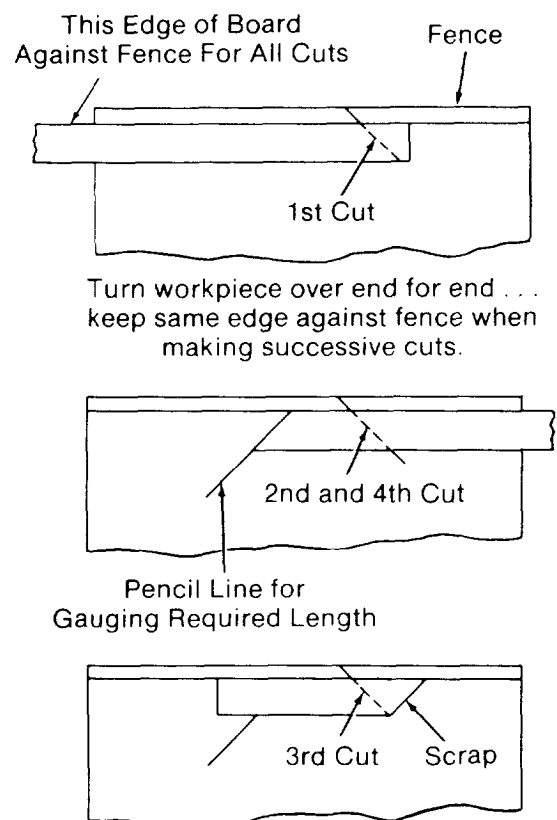

Fig. 128 Making a 4-Sided Frame
3. Place the same edge of the workpiece against the fence for all cuts. Make the first cut at one end of the workpiece, then flip the workpiece over and make the second cut from the other end. Continue this way until all four cuts are made. (Figure 128)